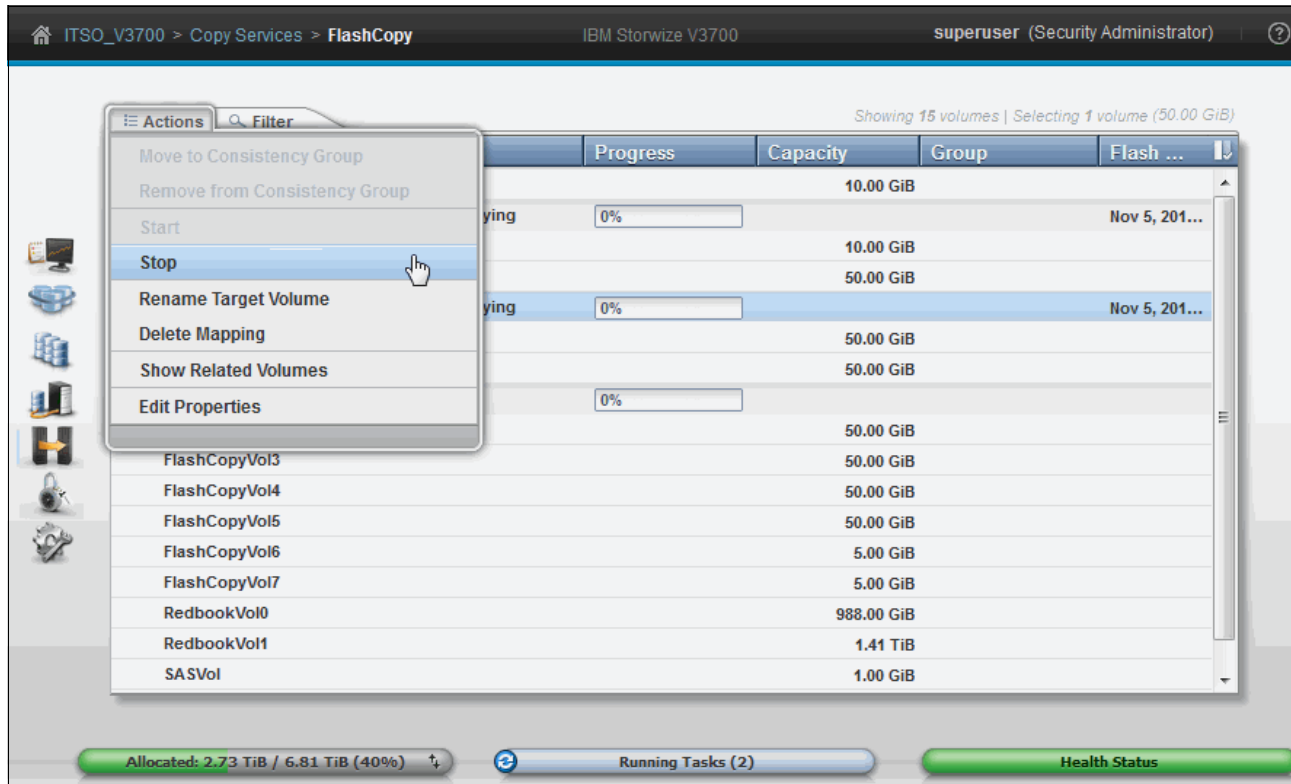

Figure 10-31 Stopping a FlashCopy mapping
2. Click the **Stop** option from the **Actions** menu, as shown in Figure 10-31. After the stopping process completes, the status of the FlashCopy mapping is changed to Stopped.